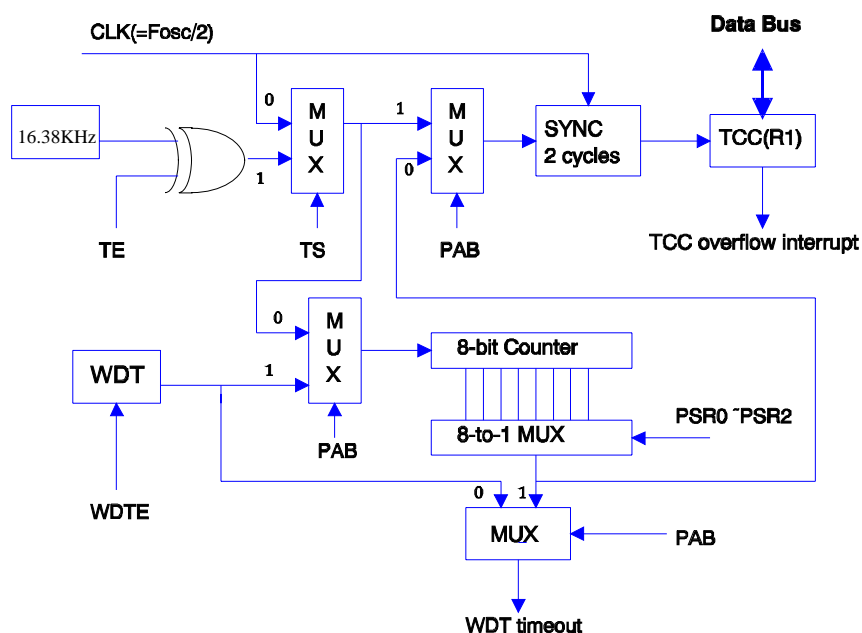

Fig.10 Block diagram of TCC WDT
- Fig. 10 depicts the circuit diagram of TCC/WDT.